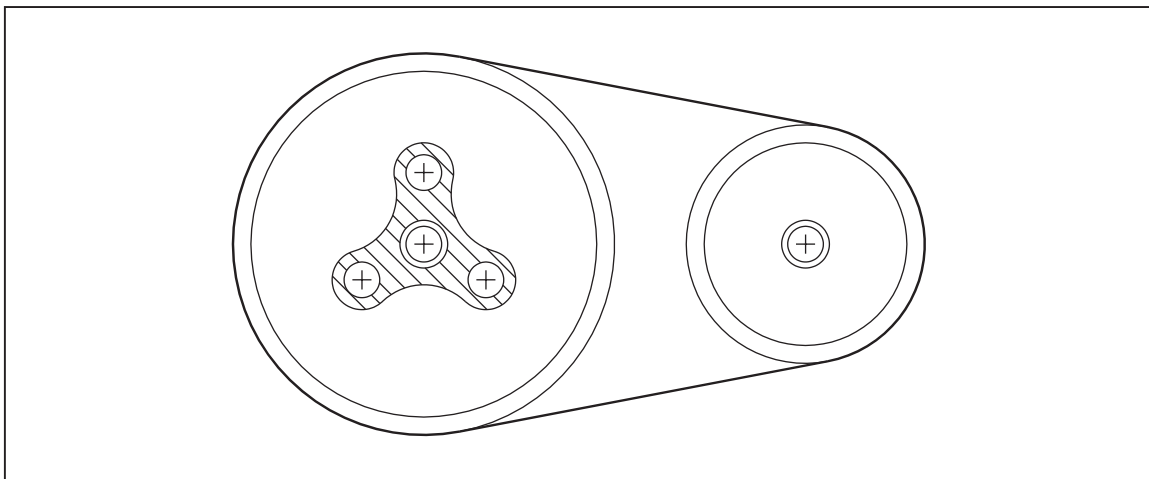

Figure 36: Completed belt and pulley assembly
- Select Hatch, then use any pattern with 0.1" pitch to fill the outline as shown in Figure 36.
- Return to the Page 1, then use Drag Insert to plant a cross at the center of all five circles, as Figure 36. File the drawing when finished.